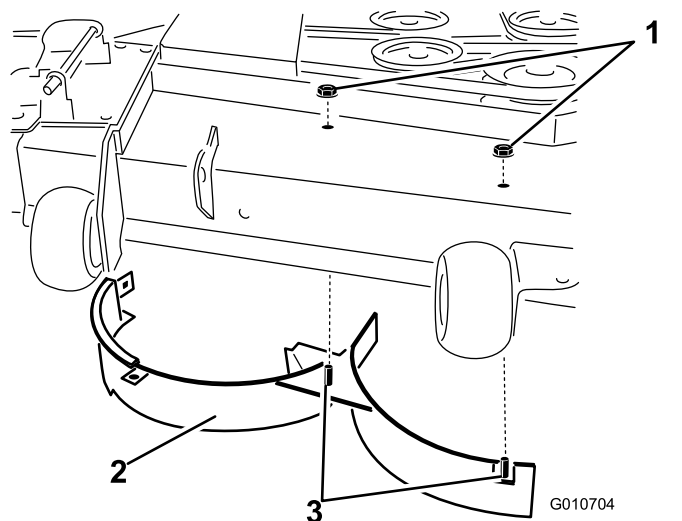

Figure 19
11. Remove the 2 locknuts (5/16 inch) securing the welded posts of the right baffle to the top of the mower deck at center and right of center positions (Figure 19).
12. Remove the carriage bolt and locknut securing the right baffle to the top of the mower deck and remove the right baffle from the mower deck (Figure 19).